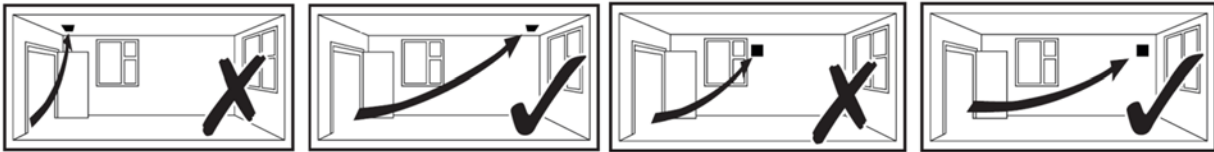

Fig.1: QF100SX5OP & QF100PIRX5OP
1. Select and follow the appropriate wiring diagram. (Fig. 1, 2 or 3)
See Fig 1, 2, 3, 4, 5, 6 & 7
QF100SX50P – Single speed fan. Controlled by remote switch (e.g light switch or auto sensor) Fig.1.
QF100PIRX50P - PIR* - Single speed with PIR (passive infra-red) detector and overrun timer. The fan starts automatically when a movement is detected and will continue to operate for the set overrun time period. Fig. 1.